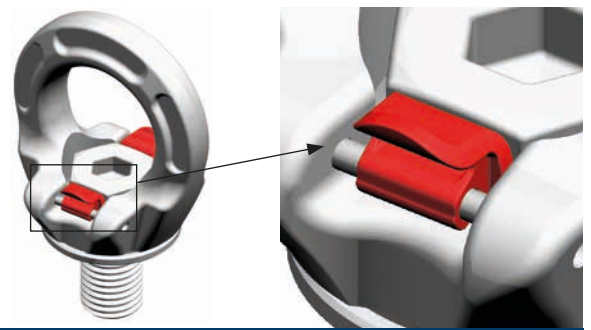

Fig. 3: Position A – both latches are touching the screw. Only permitted during mounting and demounting.
- To screw in the lifting point, fold the latches up so they lie completely flat on the side of the screw (position A – see fig. 3). The latches are held in position by a spring
Demounting is carried out by folding the latches to position 'A' (fig. 3) and unscrewing the lifting point. The demounting of PLGW-INOX “Basic” version without latches requires an Allen key. Store the lifting point as specified below in section 5. Protect the thread on the load from damage and contamination by taking appropriate measures.